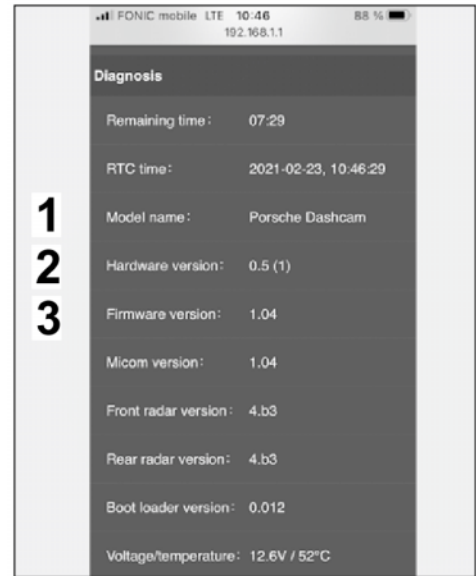

Figure 27
6.1 Information about the model name, hardware and software version, radar and more (⇒ *Figure 27*).